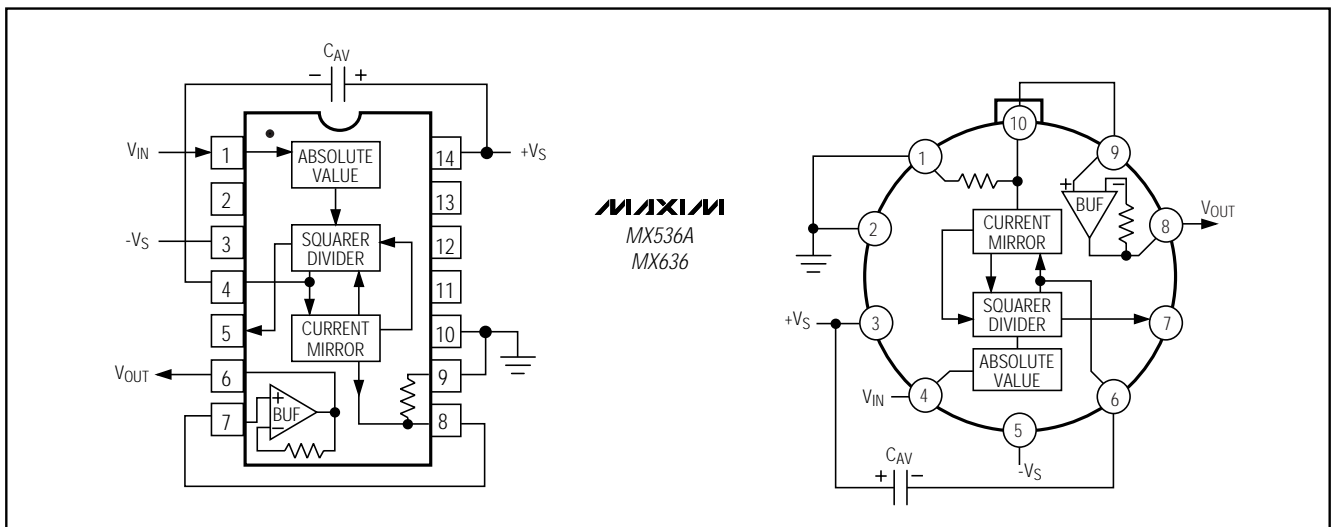

図2. MX536A/MX636の標準RMS接続
**Note 1:** Accuracy is specified for 0 to 7VRMS, DC or 1kHz sine-wave input with the MX536A connected as in Figure 2.
(図2)